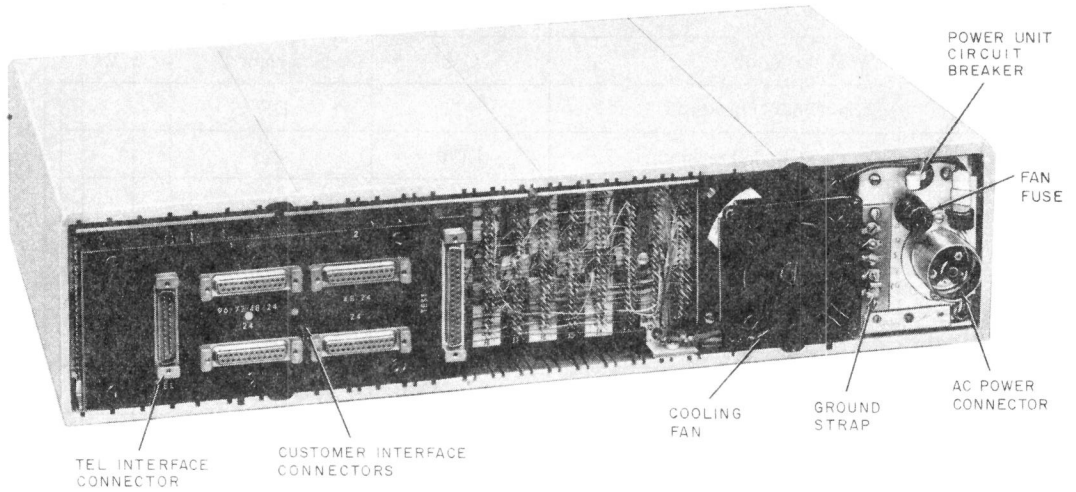

Fig. 2—Data Set 209A-L1 With Faceplate Removed—Rear View
**2.04** The data set is provided with four customer interface connectors, a TEL interface connector, and a power cord connector located at the rear of the set, as shown in Fig. 2. Customer interface connectors 1, 2, 3, and 4 are KS-19087-L2 and provide the digital interface leads for interface with CPE or extension data sets. The CPE must be equipped with a cable terminated in a Cinch or Cannon DB-19604-432 plug wired in accordance with Table A. The TEL interface connector is a KS-19088-L2 and provides the interface for connection to the 4-wire PL channel. The TEST connector,
**2.06** The data set power unit is protected by a circuit breaker mounted on the backplane inside the rear faceplate. In addition, the power unit is protected by a self-resetting thermal switch to prevent overheating. The data set cooling fan is protected by a fuse which is also mounted on the backplane. Locations of the circuit breaker and fan fuse are shown in Fig. 2.